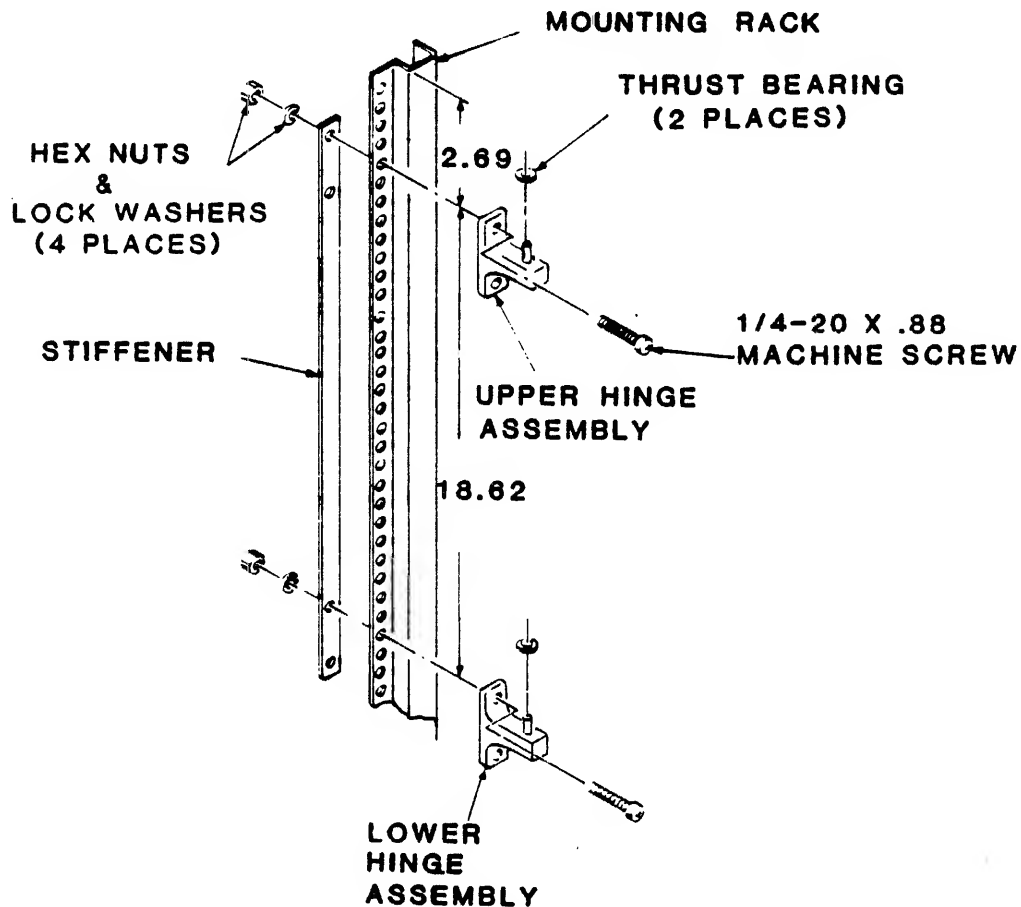

Figure 3-10. HINGE MOUNTING (RACK)
1. Bolt two hinge assemblies and stiffener bar to frame as shown in Figure 3-10. (Mounting holes in stiffener bar determine distance between rack hinges.)